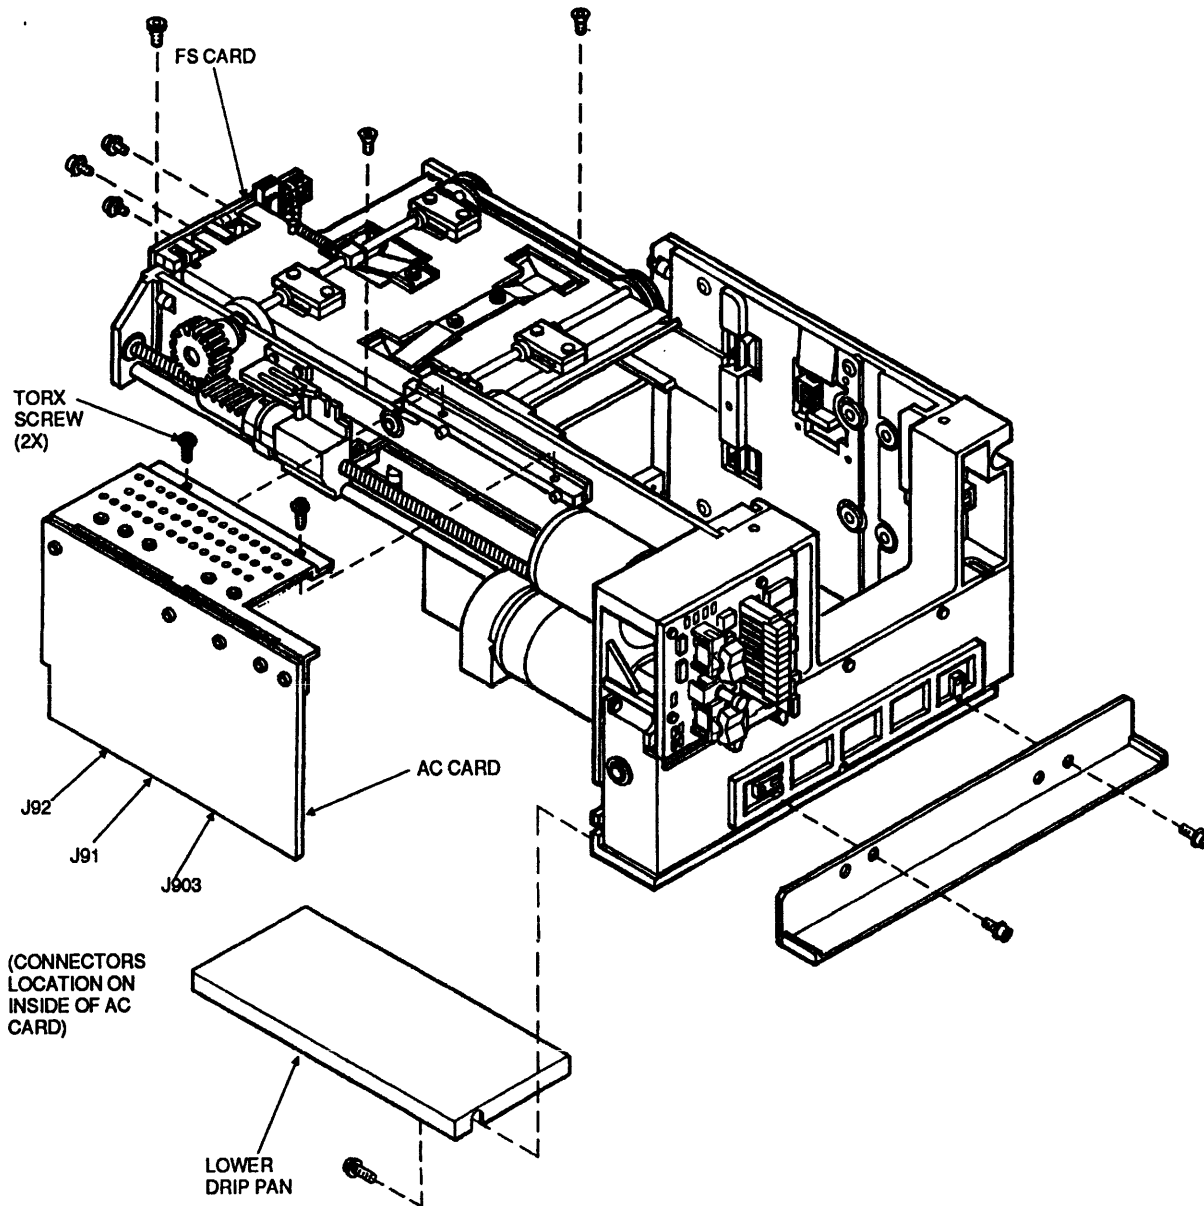

Figure 5 - 19.
4. Remove the two mounting screws on the sides of the ACL and the screw in the rear of the ACL with the allen wrench included in the kit. (Refer to Figure 5 - 20.)